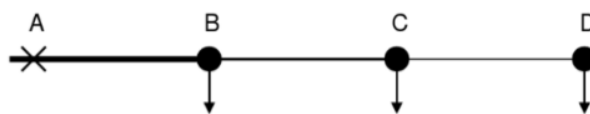

Fig. 1
8) A radial distribution feeder is shown in Figure 1. Assume the impact of reactive power is negligible. The consumption data for the loads is provided in Table 1.